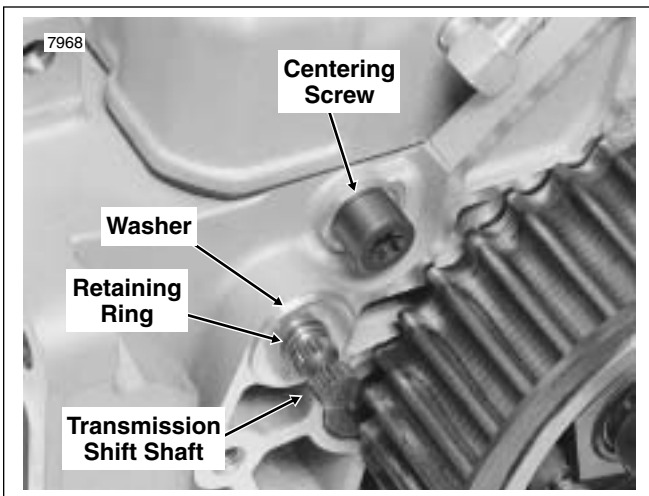

Figure 7-50. Shifter Pawl Centering Screw
4. Remove the socket head screw from the shift arm. Remove the shift arm from the transmission shift shaft. Mark splines on transmission shift shaft and shift arm as they are removed to assist in assembly. See Figure 7-50.